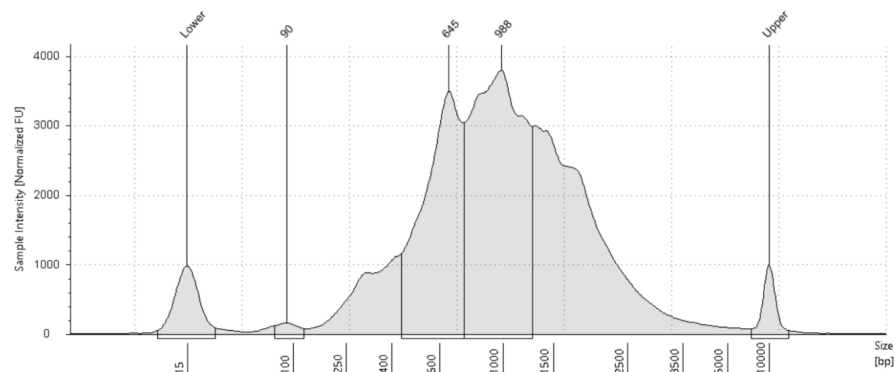

Figure 9. Representative cDNA traces for a 5,000 cell input human/mouse cell mixture (HEK 293T/NIH 3T3) using a **high sensitivity D5000 ScreenTape**.
2. Load an appropriate volume of the purified library on the fragment analyzer. Recommended loading concentration is 1-10 ng/uL on TapeStation and 1-2 ng/uL on Bioanalyzer (Figure 9). Loading less than 1 ng/uL may not give accurate results.